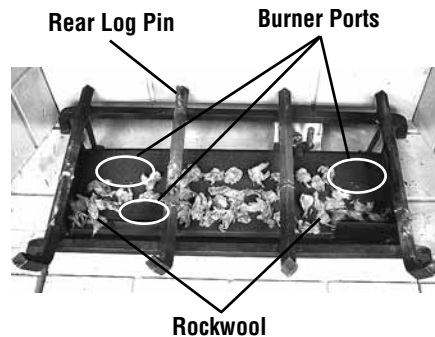

Figure 10
Step 1. Remove the rockwool from the packaging and tear into nickel size pieces. Spread the rockwool evenly on top of the burner. Do not use more than is necessary. The rockwool should not cover the burner ports, as shown in **Figure 10**.